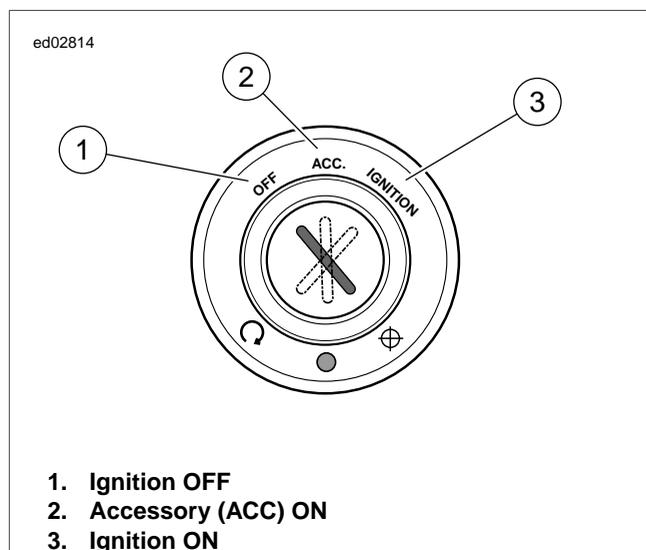

Figure 2-2. Ignition Switch
- See Figure 2-2. "Key ON" means that the Ignition Switch is turned to IGNITION and the Engine Stop Switch is set to RUN (although the engine is **not** running).